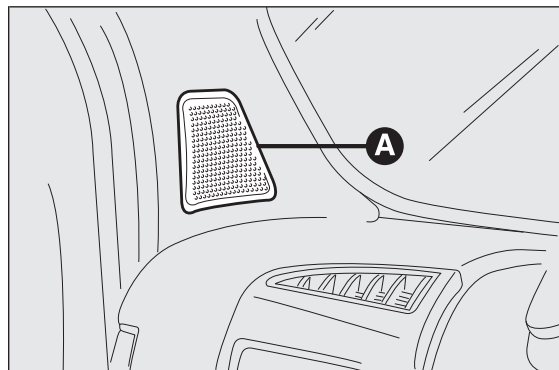

fig. 139
- ☐ 2 tweeters A located in the front doors (30 W max power each) fig. 139;